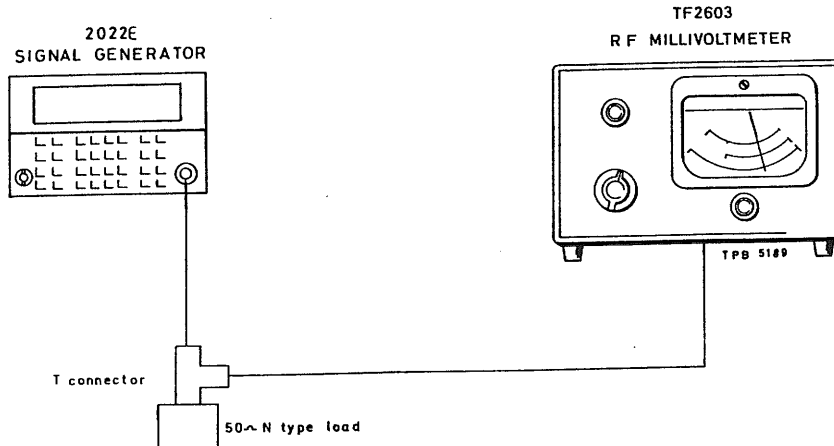

Fig. 5-10 Test gear arrangement to check VSWR up to 350 MHz
- (1) Connect test equipment as shown in Fig. 5-10 and set the 2022E controls as follows :